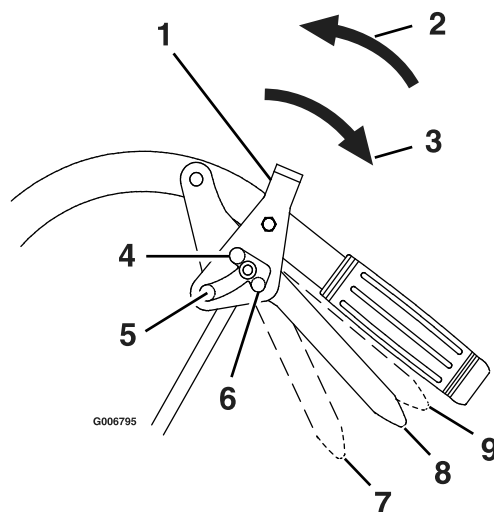
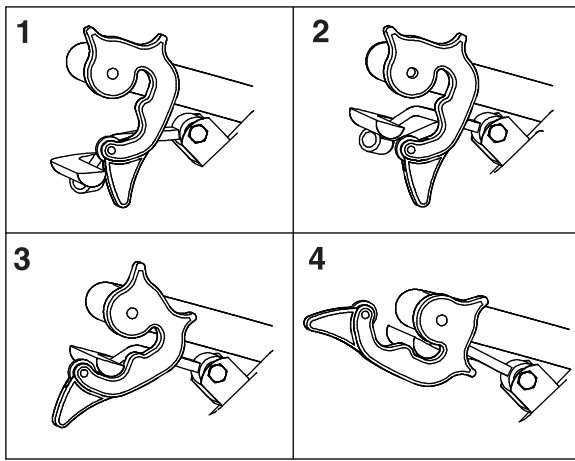

Figure 13
Figure 14
1. Adjust the park brake by rotating the wingnut on the upper end of each brake rod. Tighten the wingnut until the brakes engage when the drive levers are squeezed enough to allow the neutral lock/park brake latches to be placed into the “park brake” position. See Figure 13 for Pistol Grip Handles and Figure 14 for ECS Handles.